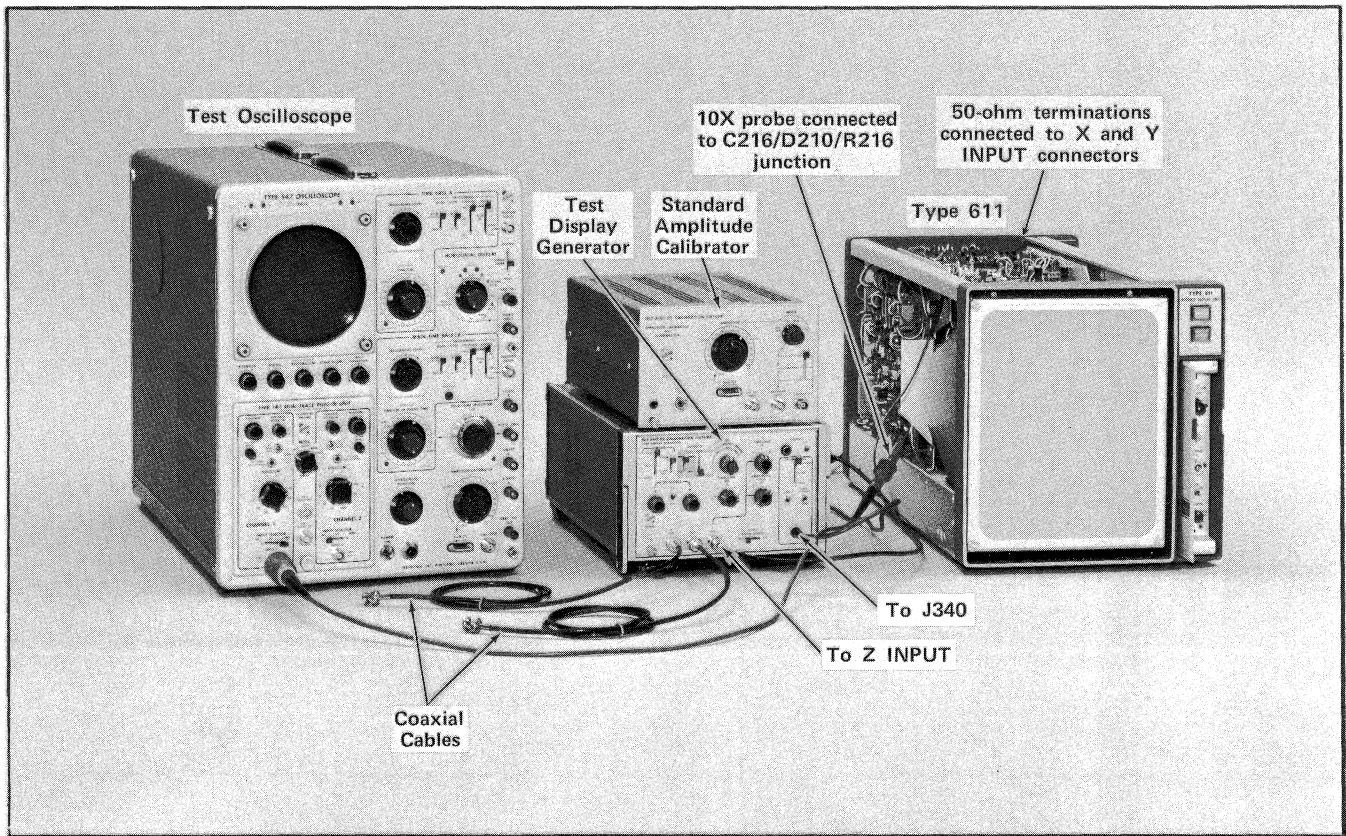

Fig. 5-14. Equipment required for Horizontal Gain, Vertical Gain and Beam Centering calibration steps.
17. Check or Adjust Horizontal Position (R44) ①
a. Test setup is shown in Fig. 5-14.